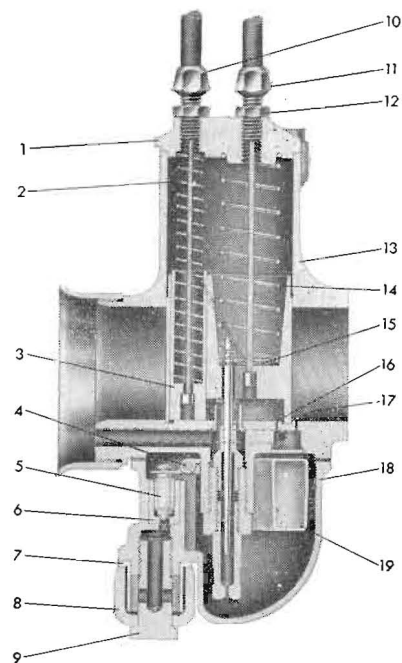

Fig. 68. Sectional view through mixing chamber and float chamber of Amal "Concentric" carburettor (Series 600 or 900)
Dismantling "Concentric" Carburettor(s). Carburettor removal from the engine in the case of a "concentric" instrument differs little from "monobloc" carburettor removal (see page 16) except that the petrol feed-pipe banjo securing bolt is located as shown at (9) in Fig. 68, and it is necessary to remove two screws in order to detach the mixing-chamber cap (1).
First remove the mixing-chamber cap (secured by two screws) and withdraw the throttle and air slides (valves) from the mixing chamber shown at (13) in Fig. 68. Then remove the spring clip (15) securing the tapered jet-needle to the throttle slide, compress the latter's return spring (14), and slide the cable nipple from the base of the air slide (3).
Assembling "Concentric" Carburettor(s). Assemble a carburettor (see Fig. 68) in the reverse order of dismantling. When doing this note the following points. Do not again use any paper, fibre or rubber washers unless such washers are found to be in *perfect* condition.
When replacing the detachable float-chamber (see Fig. 68) check that the ends of the float hinge-pin are properly seated in their sockets and not partly resting on the flange face. If the end of a hinge-pin stands proud of its socket and rests on the flange, severe subsequent flooding is likely and the carburettor body and/or float-chamber may become damaged.